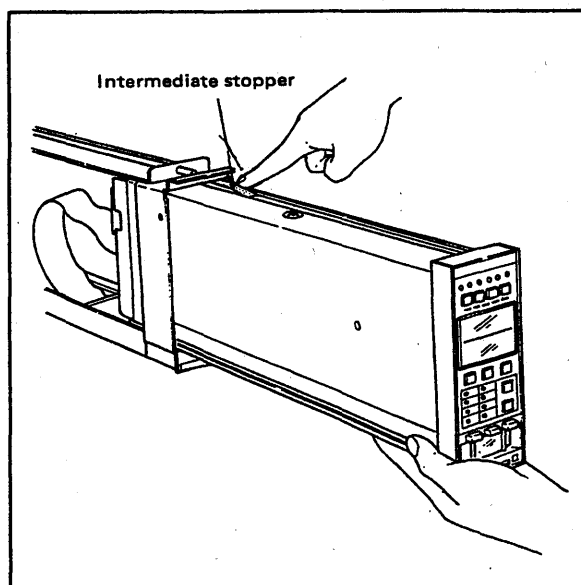

Figure 5-2-2. Removing Internal Assembly.
- ② To remove the internal assembly from the housing, push down the intermediate stopper, then pull out the assembly as shown in Fig. 5-2-2.